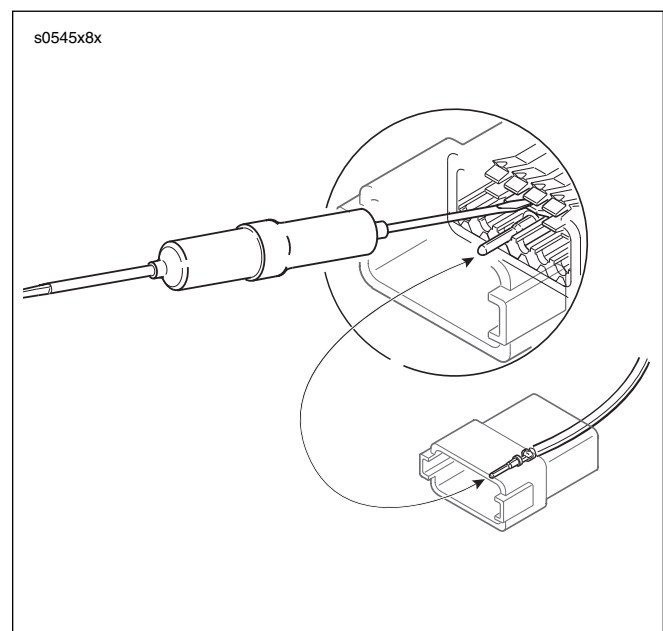

Figure B-7. Depress Terminal Latches/Back Out Pins
1. See Figure B-7. Remove the secondary locking wedge. Insert the blade of a small screwdriver between the socket housing and locking wedge in line with the groove (in line with the pin holes if the groove is absent). Turn the screwdriver 90 degrees to pop the wedge up.